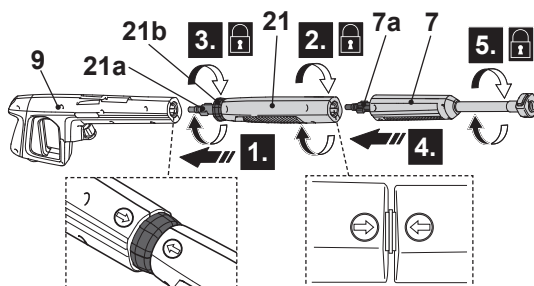

Fig. 11
1. Always attach the short extension lance (21) and extension lance (7) when using the patio brush.
2. Align and insert the tongues (21a) of the short extension lance (21) into the grooves of the spray gun (9) connection port. (Fig. 11, step 1).
3. Turn the short extension lance (21) clockwise to lock it in place (step 2). Ensure the arrow on the spray gun aligns with the arrow on the short extension lance.